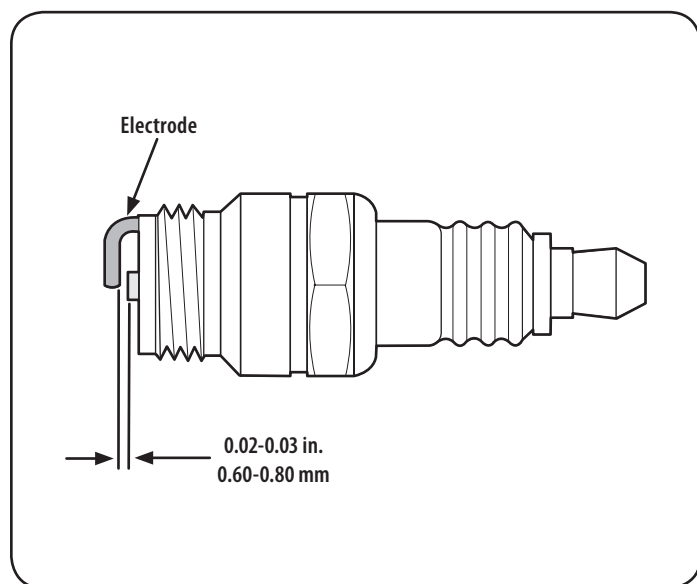

Figure 23
3. Measure the plug gap with a feeler gauge. Correct as necessary by bending side electrode. See Figure 23. The gap should be 0.030".